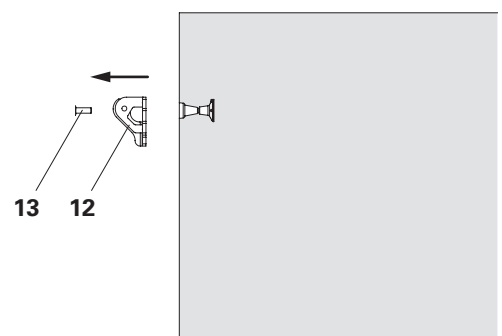

Fig. C3.08
- Remove the anchors and seal the tie holes, e.g. with PERI Concrete Cones, see Section "A5 Anchoring" on page 35. (Fig. C3.08)